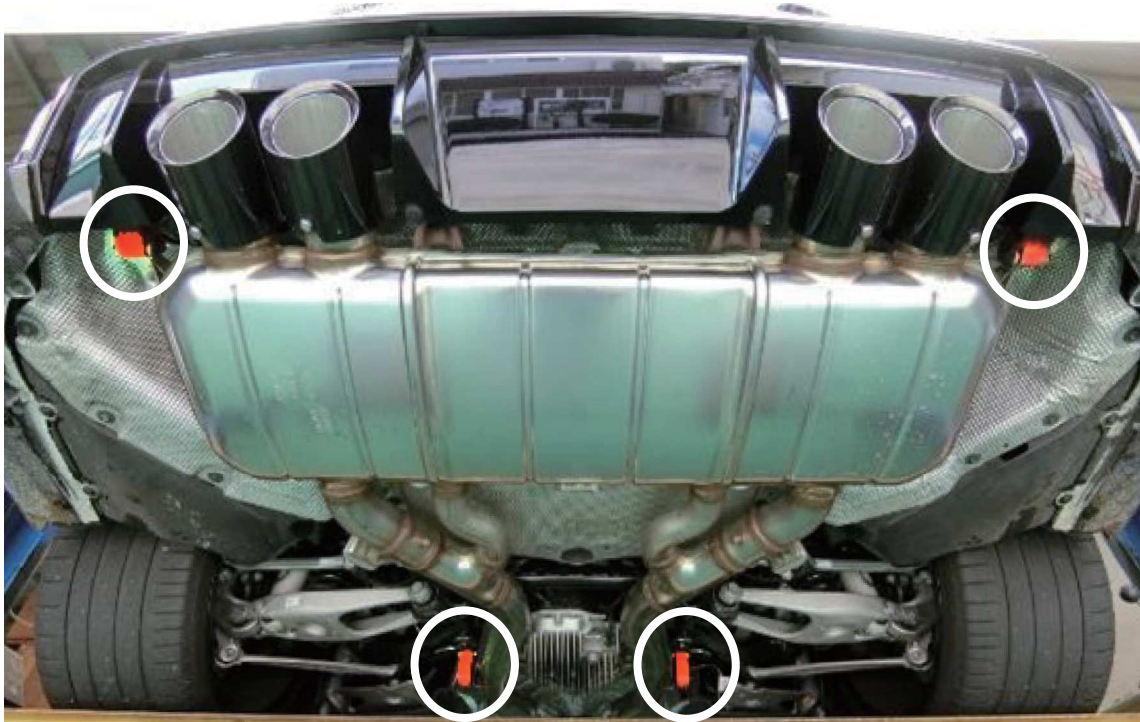

Fig. 4 Stock muffler rubber brackets
(4) Disconnect the connector by unlocking the two locks on the stock actuator.
(5) Remove the nuts from the four stock muffler rubber brackets shown in Fig.4, and remove the stock muffler on the rear side of the vehicle from the cut section.